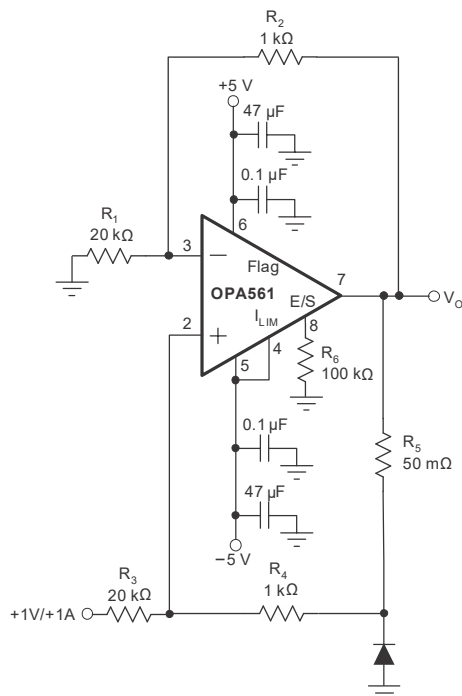

**Figure 7-5. Via Connection**
5. When connecting these holes to the ground plane, do not use the typical web or spoke via connection methodology; see Figure 7-5. Web connections have a high thermal resistance that is useful for slowing the heat transfer during soldering operations. This heat-transfer slowing makes the soldering of vias that have plane connections easier. However, in this application, low thermal resistance is desired for the most efficient heat transfer. Therefore, connect the holes under the PowerPAD package to the internal ground plane with a complete connection around the entire circumference of the plated through hole.